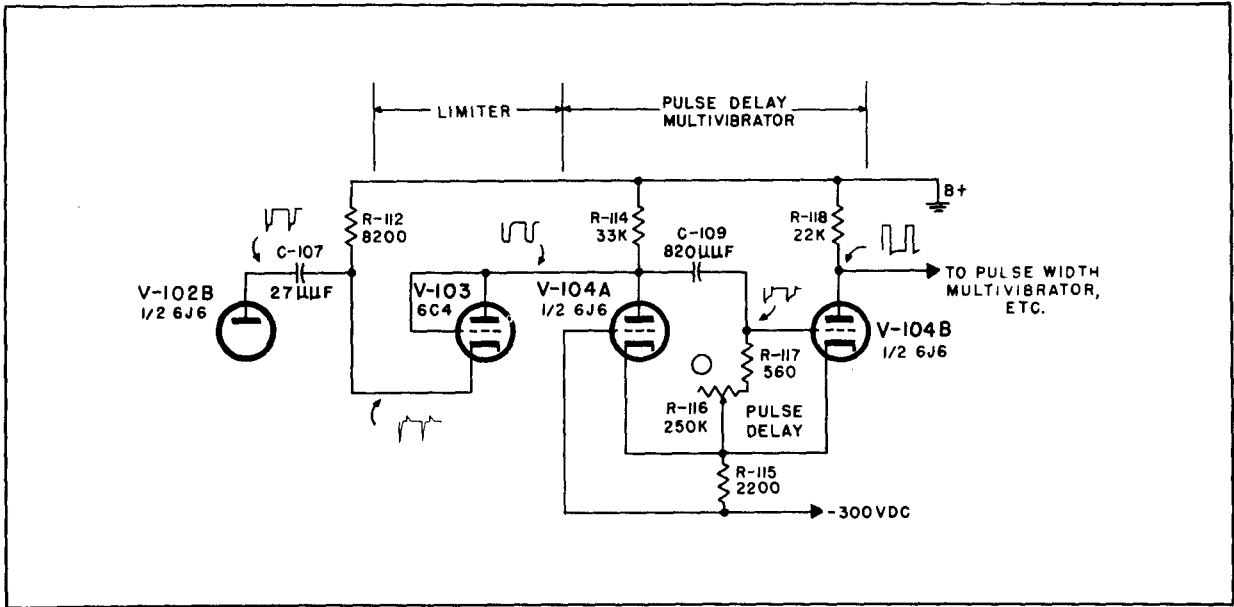

Figure 3-12. Limiter and Delay Multivibrator
c. LIMITER.-V-103 operates as a series diode limiter and is designed so that it will pass negative voltages but is an open circuit for positive voltages (figure 3-12). The circuit has been designed in this way because the output of V-102B is always a negative pulse and by differentiating this pulse a negative trigger is obtained at the leading edge of the pulse and a positive trigger at the trailing edge of the pulse. The negative trigger is passed by the limiter while the positive trigger is blocked. Therefore, a negative trigger is available which is simultaneous with the leading edge of the pulse obtained from V-102B. In turn the pulse obtained from V-102B is approximately simultaneous with the external pulse applied to the instrument, when an external pulse is applied to the instrument.
d. DELAY MULTIVIBRATOR.-The negative trigger passed by the series diode limiter V-103 is applied to V-104, the Delay Multivibrator (also shown in figure 3-12). This multivibrator provides a time delay between the pulse obtained from the Pulse Rate Multivibrator and the pulse which is applied to the rf oscillator